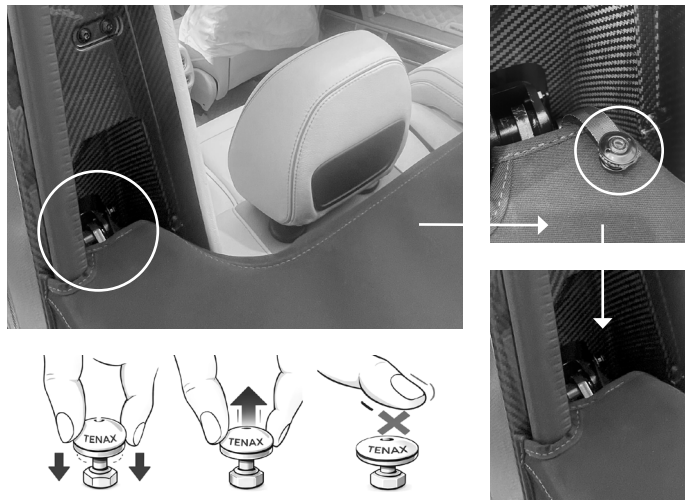

Fig. 22
- Secure the Tenax fasteners in the designated positions (Fig. 22).